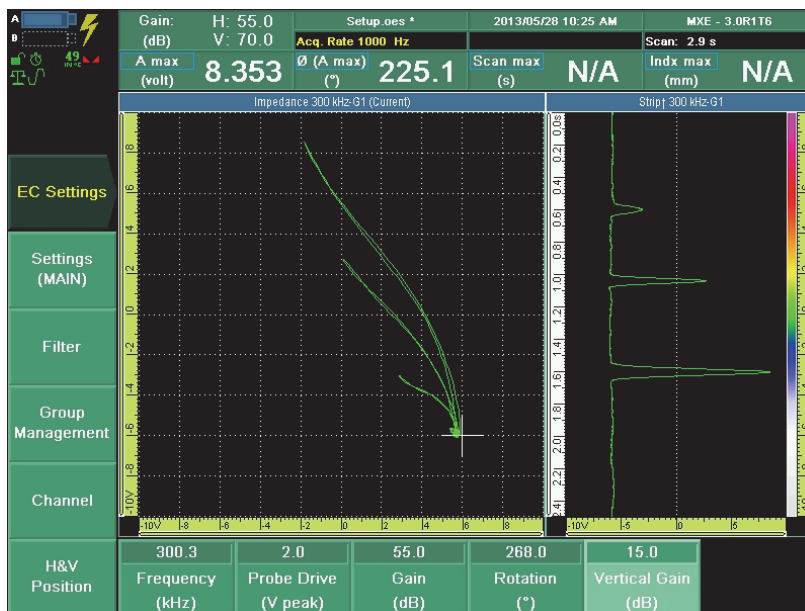

Figure 13-3 Example of crack signals with a surface probe
11. Scan the three cracks to verify the crack signals (see Figure 13-3 on page 242).